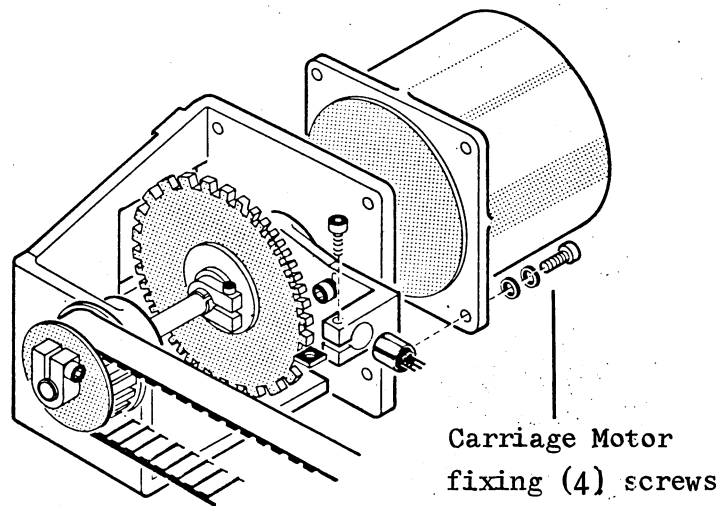

Fig. 7-9 Carriage Drive Motor for the Mina Mechanics
- . Remove the four screws fixing the motor to the motor support group (fig. 7-9) by acting from the rear side of the unit.